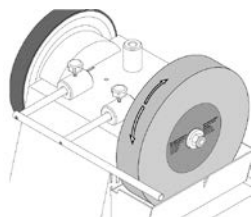

Fig. 5
2.2 Install horizontally for grinding with the wheel rotation (Fig. 5).